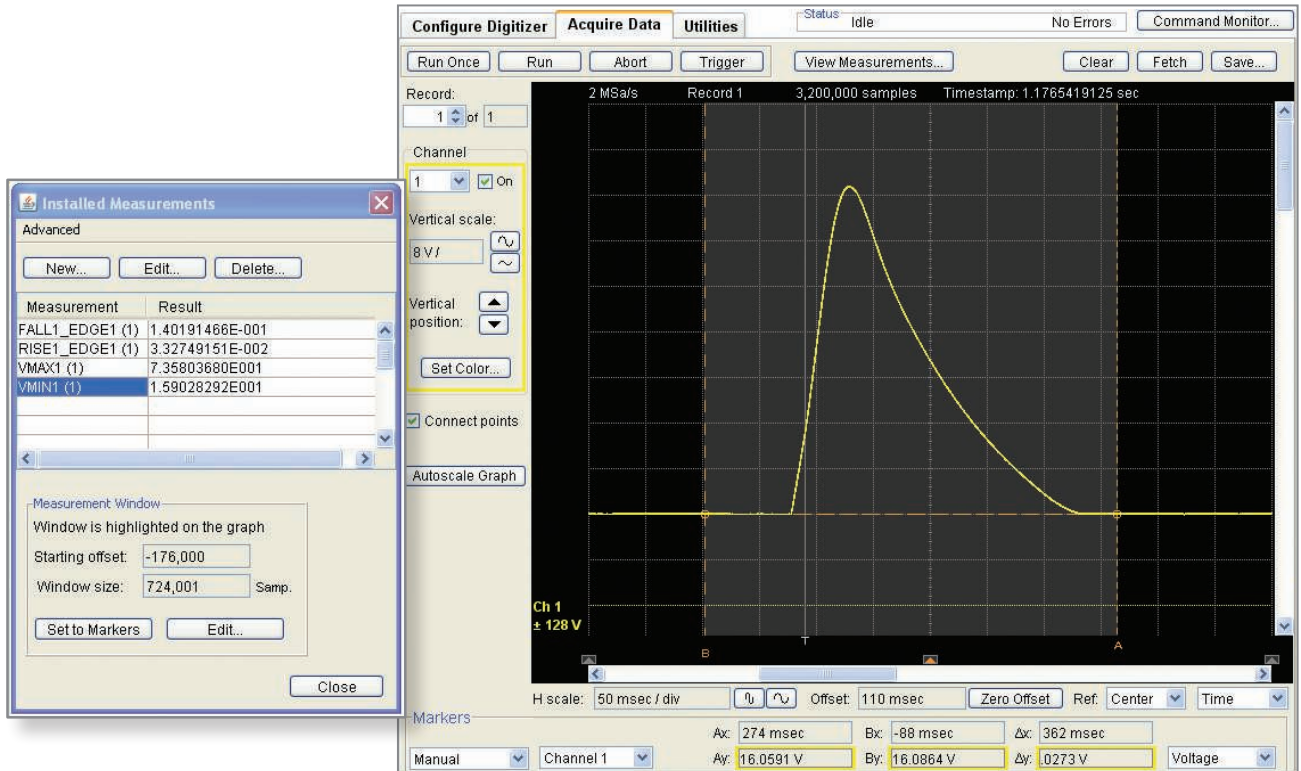

Figure 10. Resulting load-dump waveform
- Finally, press the **Arb Run/Stop** button. The output load dump pulse will be generated, as shown in Figure 10 (below).